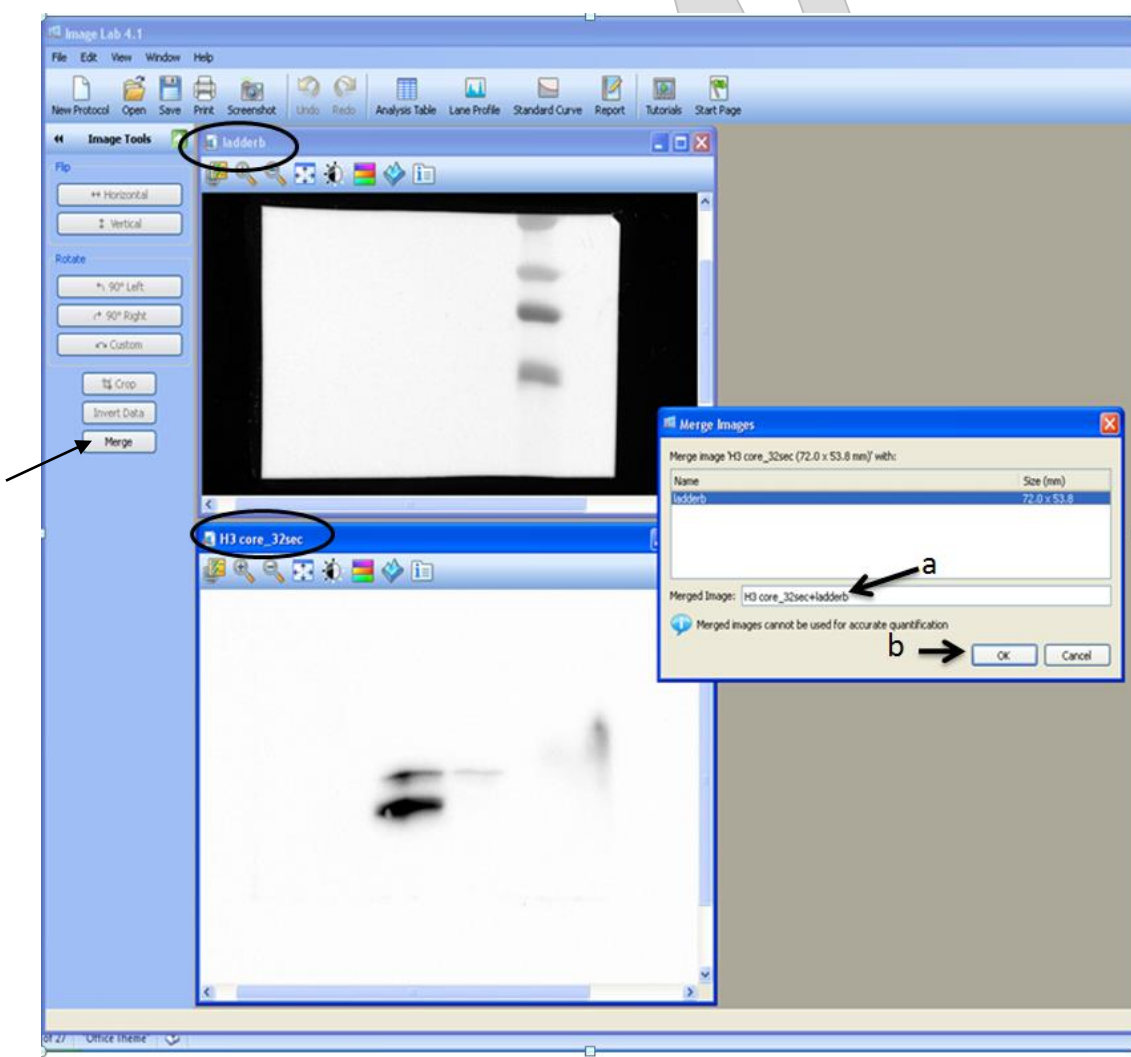

Figure 27
8.2.13. Merge the 2 images together. Click on the 'Image Tools' icon on the left side of the screen (Figure 26). Next, click on the 'Merge' icon. See Figure 27. Select the images to be merged (a). Then click OK (b).